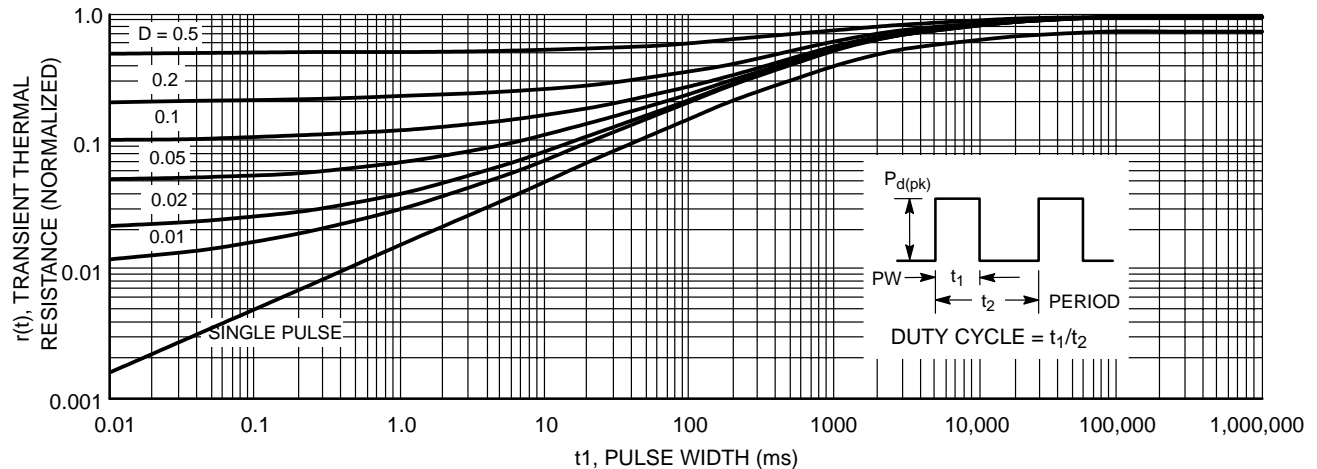

Figure 11. Transient Thermal Response for NUD3105DLT1
2. For pulsed operation, use the Transient Thermal Response of Figure 11 and the instructions with it to determine the maximum limit on transistor power dissipation for the desired duty cycle and temperature range.